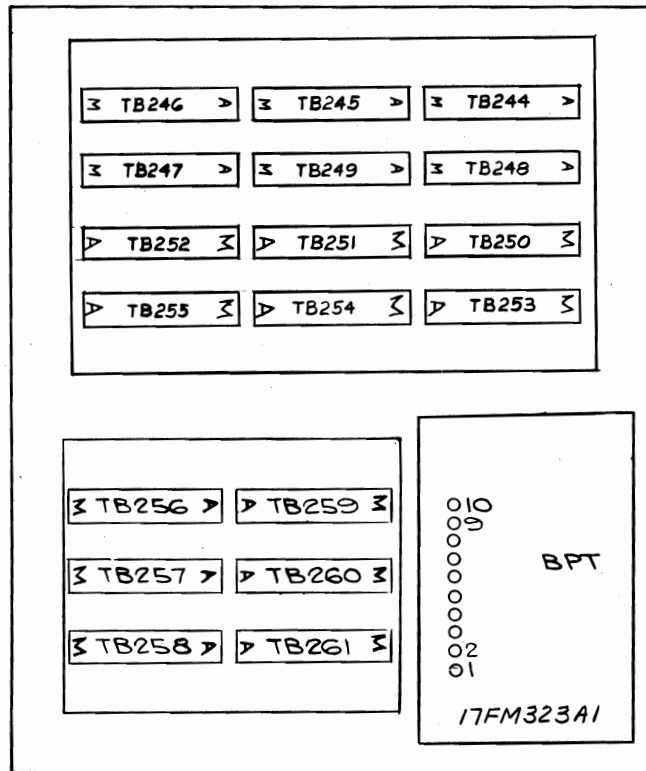

FIG. 13-71. FM329 PANEL TEST POINTS ON TERMINAL BOARDS. (41A267697)
1. Connect the FL134 panel to the FM329 panel with required cabling in the car. See Fig. 13-71 for the terminal board layout for the listed test points in the following test procedure. For checkout on the bench, the interconnections between the FL134 and FM329 panels should be made per the schematic 12B106899, sheets 44, 45, 46 and 47.